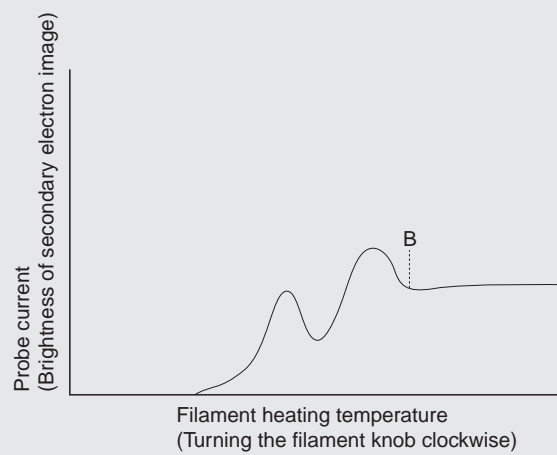

Fig. 3 Change of the probe current when the optical axis alignment is incomplete.
- (3) Adjust the bias voltage so that the emission current becomes 50 to 100 μ A; however, the greater the emission current, the shorter the filament life.
- (4) For aligning the optical axis, align the optical axis so that the probe current changes as shown in Fig. 2 as you gradually increase the filament current, when the optical axis is not aligned, the probe current changes as shown in Fig. 3, so align the optical axis. Actually, set the filament current to position B and adjust the optical axis alignment knob so that the probe current becomes the maximum.